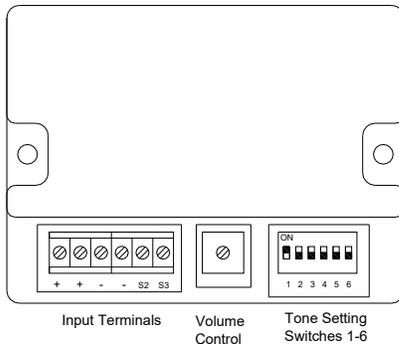

Fig 2 Location of field terminals and controls.
- Fit a 20mm cable gland or conduit entry into the untapped hole in the enclosure and connect the field wiring to the appropriate sounder terminals as shown in section 6 and fig 2 of this manual. The power supply terminals + and - are duplicated so that sounders may be connected in parallel, or an end of line monitoring resistor may be fitted.
- Select the required output tone by positioning the six switches as shown in Table 1 and Fig 2.
**Tone Selection** – To select the required first stage tone set the tone switches 1 to 6 (see Fig 2) to the tone setting shown in the table below. The table also shows which 2nd and 3rd stage tones are available for use with the selected first stage tone if more than one tone output stage is required.
The output level of the IS-A105N sounder can be set by adjusting the volume control potentiometer (see Fig 2).